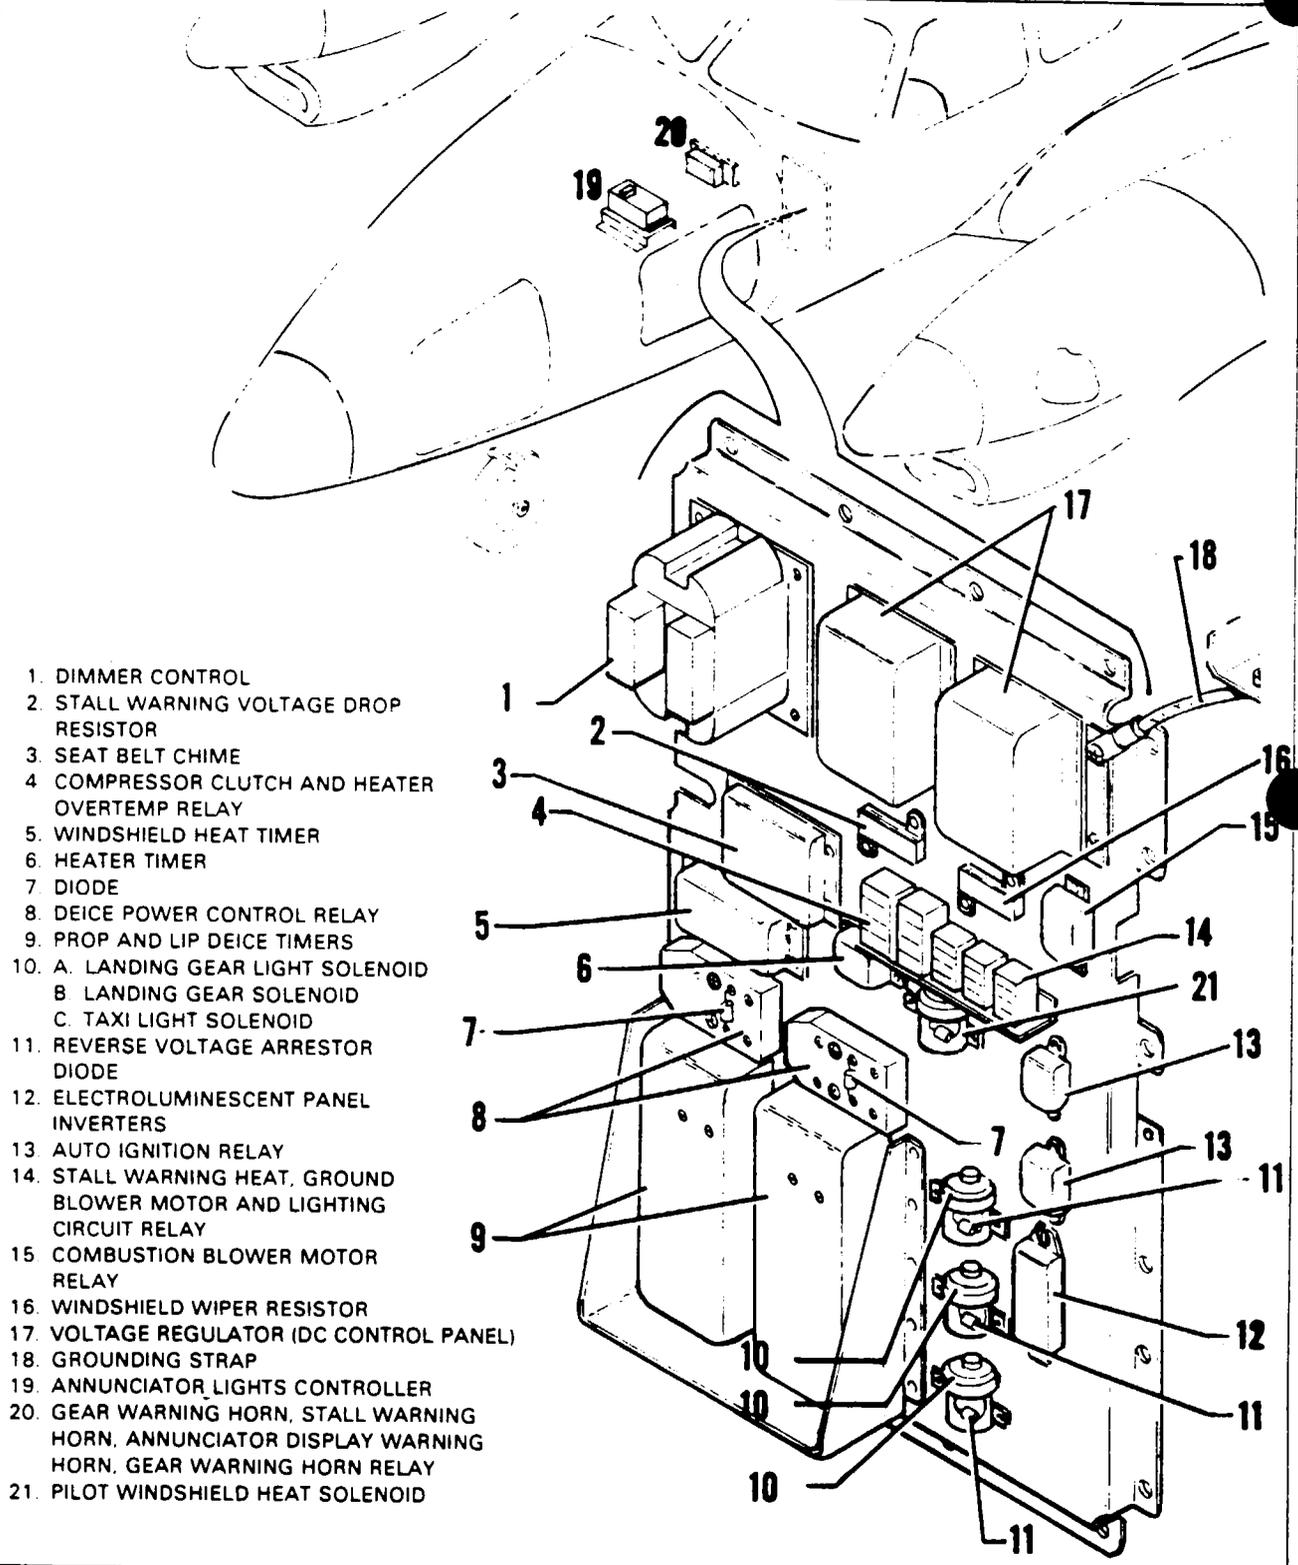

Figure 39-5. Electrical Accessory and Relay Shelf
**ELECTRICAL AND ELECTRONIC EQUIPMENT RACKS.** (Refer to Figure 39-5.)